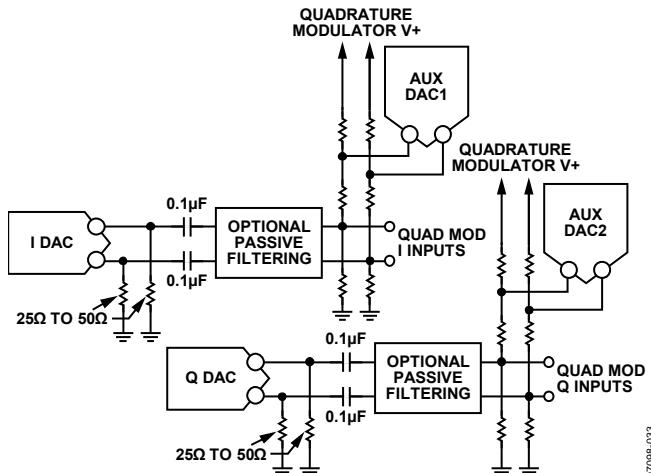
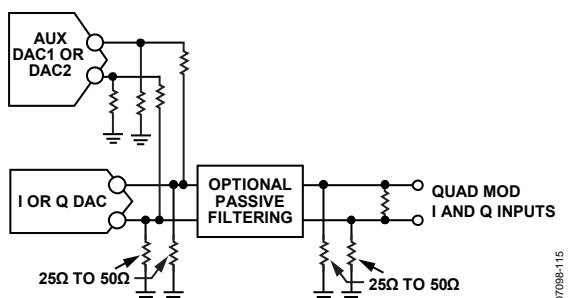

Figure 72. Typical Use of Auxiliary DACs AC Coupling to Quadrature Modulator
Figure 73. Typical Use of Auxiliary DACs DC Coupling to Quadrature Modulator with DC Shift
The auxiliary DACs can be used for local oscillator (LO) cancellation when the DAC output is followed by a quadrature modulator. This LO feedthrough is caused by the input referred dc offset voltage of the quadrature modulator (and the DAC output offset voltage mismatch) and can degrade system performance. Typical DAC-to-quadrature modulator interfaces are shown in Figure 72 and Figure 73. Often, the input common-mode voltage for the modulator is much higher than the output compliance range of the DAC, so that ac coupling or a dc level shift is necessary. If the required common-mode input voltage on the quadrature modulator matches that of the DAC, then the dc blocking capacitors in Figure 72 can be removed.
A low-pass or band-pass passive filter is recommended when spurious signals from the DAC (distortion and DAC images) at the quadrature modulator inputs can affect system performance. Placing the filter at the location shown in Figure 72 and Figure 73 allows easy design of the filter, as the source and load impedances can easily be designed close to $50\ \Omega$.